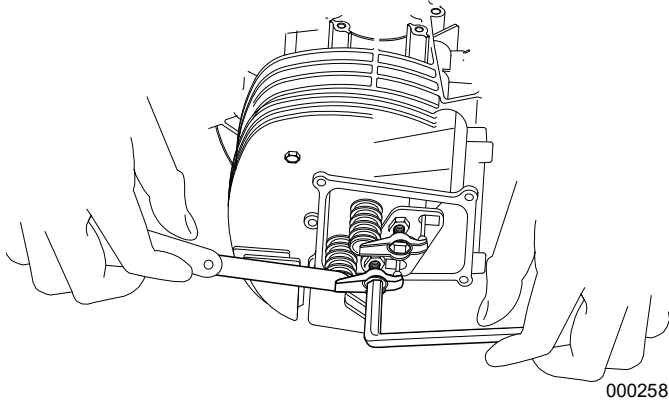

Figure 4-14. Adjusting Valve Clearance
1. See **Figure 4-14**. Loosen rocker arm jam nut. Turn pivot ball stud while checking clearance between rocker arm and valve stem with a feeler gauge.